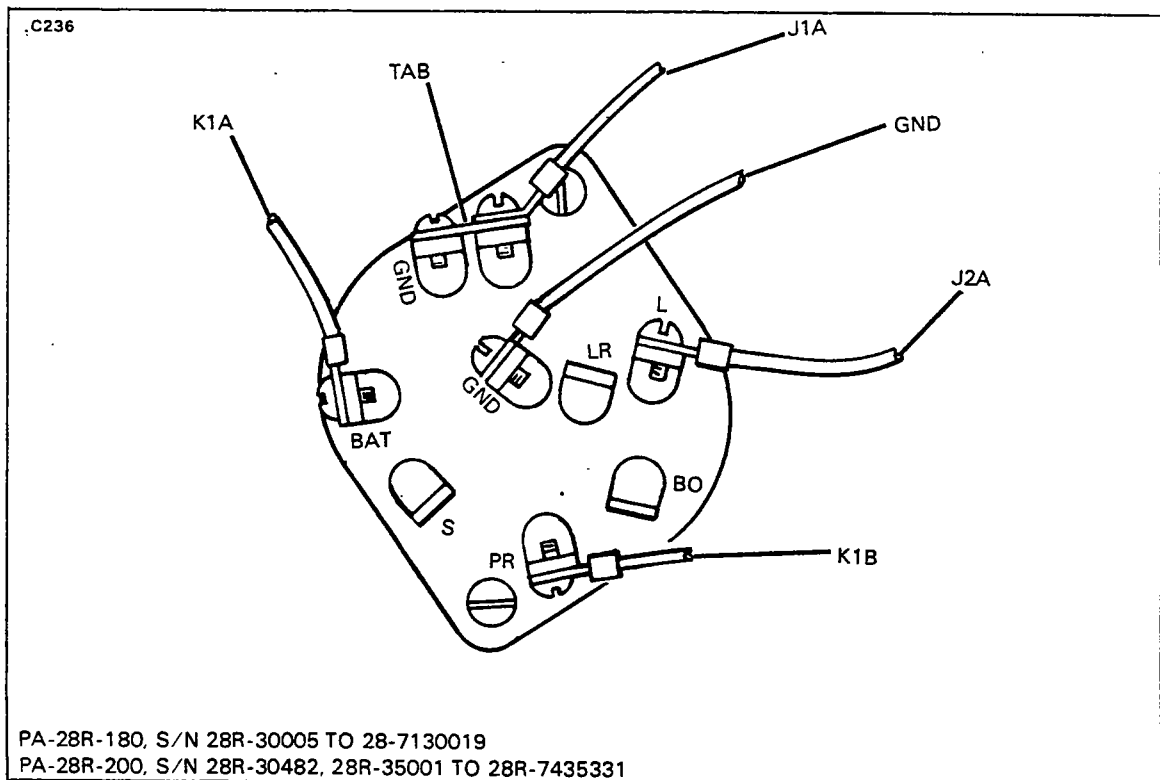

Figure 8A-32. Ignition Switch Wiring Positions
8A-46. INSTALLATION OF IGNITION SWITCH. (Refer to Figure 8A-32.)
- a. Attach wires to the switch as shown in Figure 8A-32.